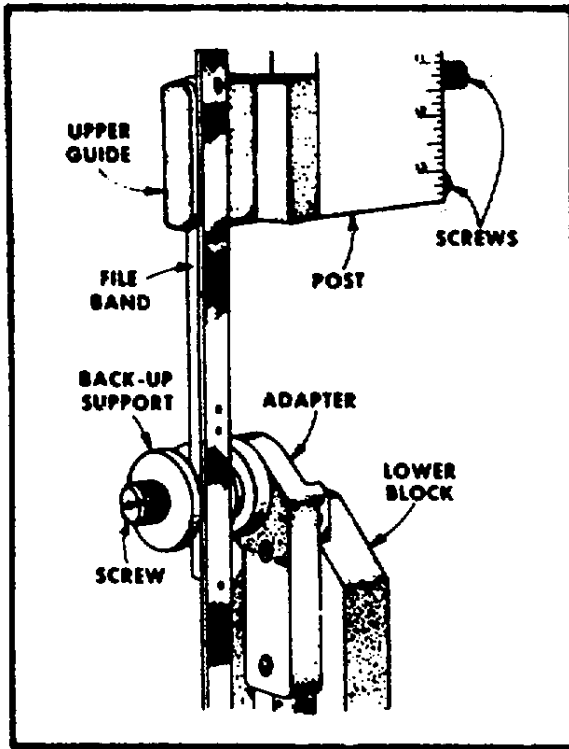

Fig. 23 - File guides.
(4) Mount the file guide support (fig. 23) on the lower keeper block, making sure the proper width of slot for the file band is being used.
(5) Lower the upper post to the proper work thickness. This thickness should not exceed 2 in. for 1/4